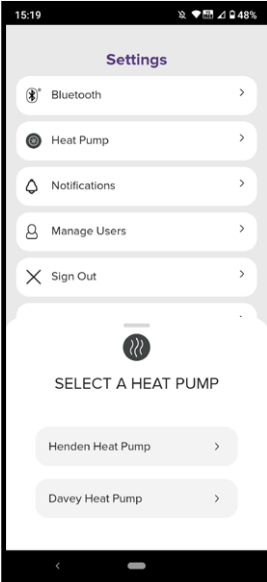

Figure 9.86
- If you are looking to sync a “Davey Heat pump”, then press the respective button (refer Figure 9.86). If you are looking to sync a “Henden Heat Pump”, go to section 9.11.2 of this manual.